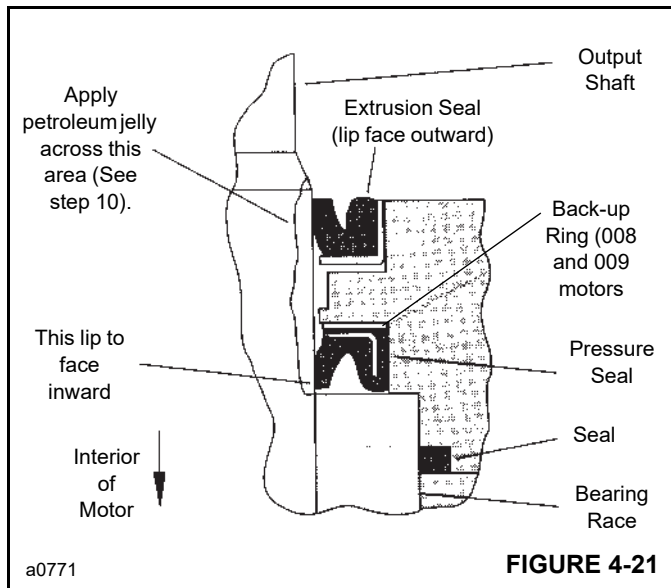

FIGURE 4-21
- Before installing the flange and seal assembly over shaft (9) Figure 4-12, place a protective sleeve or bullet over the shaft. Then lubricate the space between exclusion seal (2) and pressure seal (5), as well as the lips of both seals Figure 4-21.